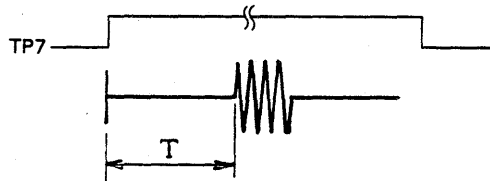

Fig. 3-8 Waveforms of TP2 + TP 3
- 7) When T of the waveform shown in Fig. 3.8 is not the range 150 ~ 500 μ S in SIDE 1, loosen the index detector A fixing screw.